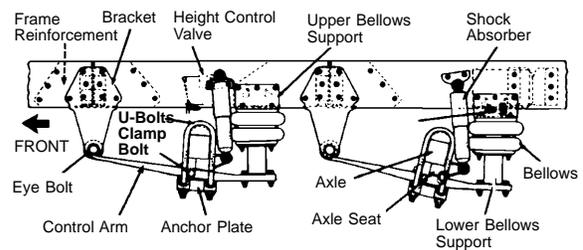

Figure 2-4: Air suspension parts.
- Leaking shock absorbers (Figure 2-4).
- Air suspension systems that are damaged and/or leaking (Figure 2-4).